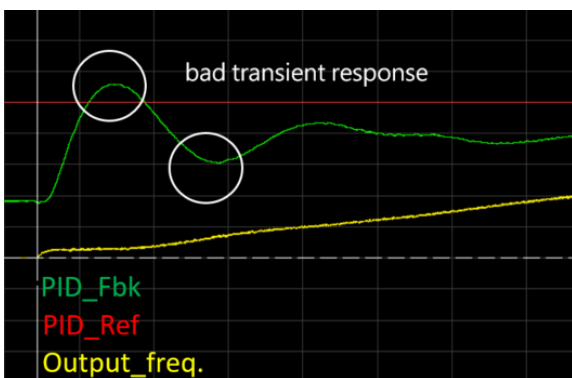

Figure 8
- ✗ If you start the original PID control at low point, the pendulum falls dramatically and overshoot occurs when starting the pendulum, as shown in Figure 8.